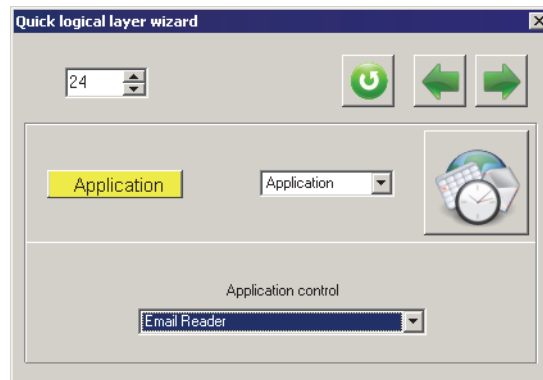

Fig. 5.14.
**Quick logical layer wizard** dialog for this function is shown on Fig. 5.14.